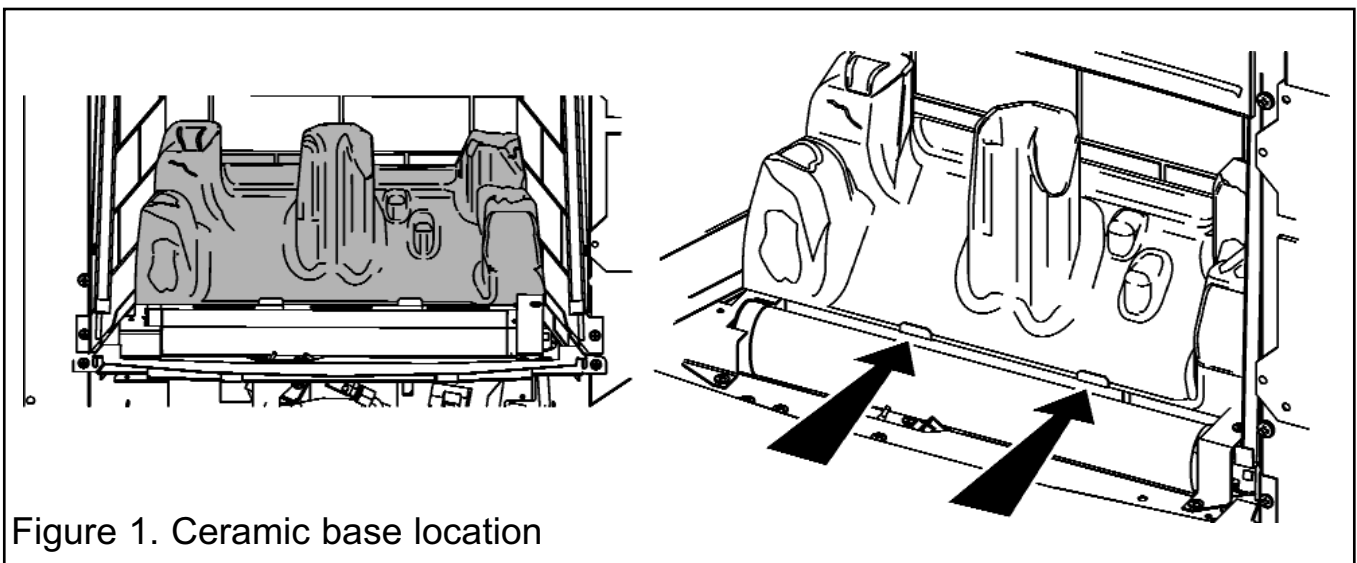

Figure 1. Ceramic base location
**1.** Place the ceramic base coal in the burner compartment. The bottom rear face of the coal should rest on the angled ledge at the back of the burner compartment. The bottom front recess edges on the coal base should locate against the tags at the front of the ceramic support (See figure 1).